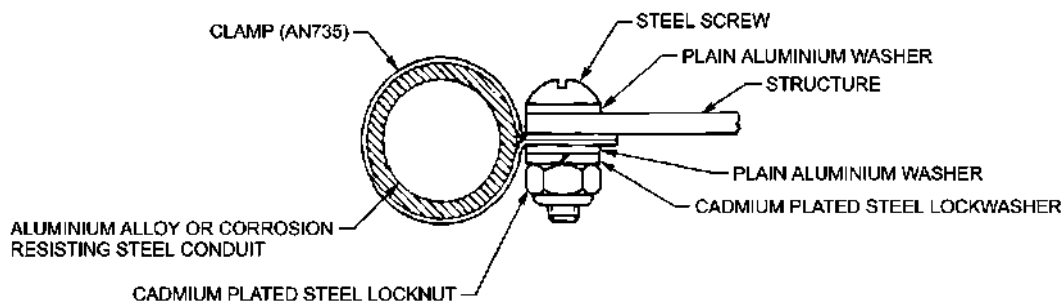

Figure 13-8 Bonding Conduit to Structure
22. Bond aluminium alloy or corrosion-resisting steel conduit to structure as shown in Figure 13-8. If installation conditions require, an AN742 clamp may be used instead of an AN735 clamp, using same hardware.